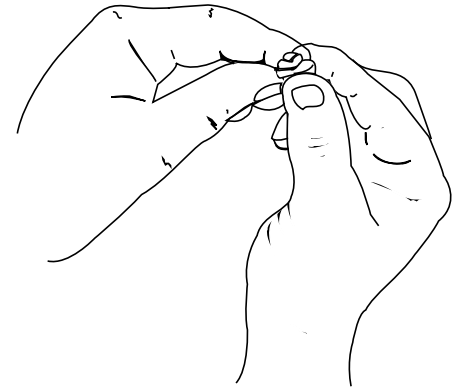

Fig. 35
5. Squeeze the filter to spread and remove excess oil (Fig. 35).